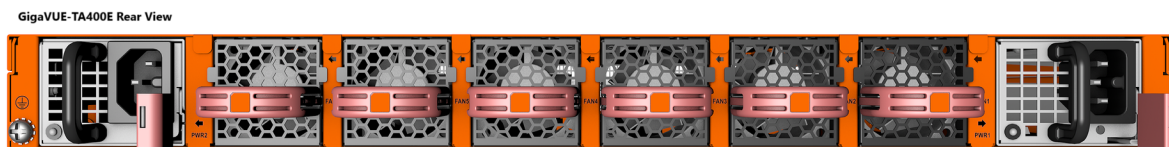

Figure 6 Connecting AC Power
1. Plug an approved C13 power cable into each of the power supplies at the rear of the GigaVUE-TA400E as shown in Figure 6 Connecting AC Power.